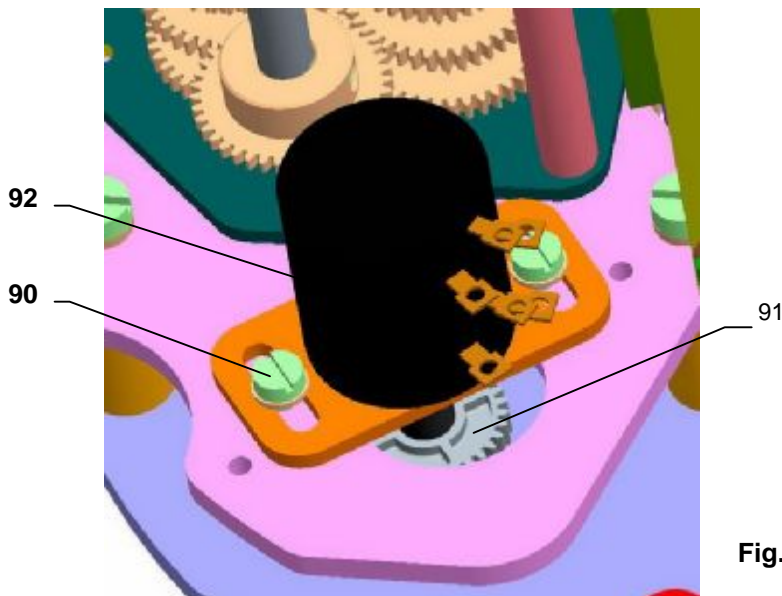

Fig.9
- With variant having resistance transmitter, disengage the transmitter, (Fig.9)
- Turn the position indicator disc (32) to bring a mark identified with a symbol for the „close" direction in coincidence with a mark on the upper cover aperture (If it is difficult to turn the wheel, release the screw using the screwdriver to fix the wheel).
- Turn the upper part of the position indicator disc (32) to bring a mark identified with a symbol for the „open" direction in coincidence with the mark on the upper cover aperture.
4.5 Adjustment of resistant transmitter (Fig.9)